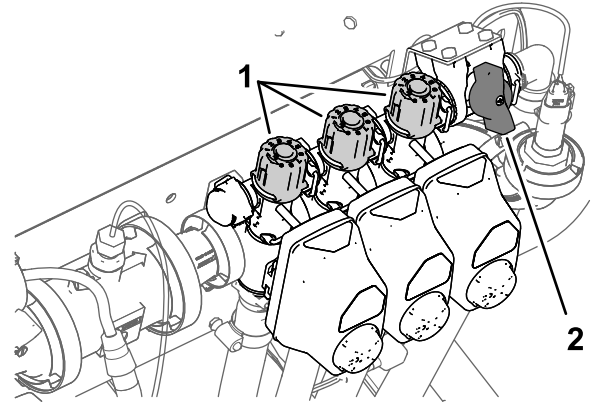

Figure 38
9. Turn off the left-section switch and adjust the section-bypass knob (Figure 38) until the rate displayed is at the previous level according to the table.
11. Adjust the right section-bypass knob (Figure 38) until the rate displayed is at the previous level according to the table.
13. Adjust the center section-bypass knob (Figure 38) until the rate displayed is at the previous level according to the table.